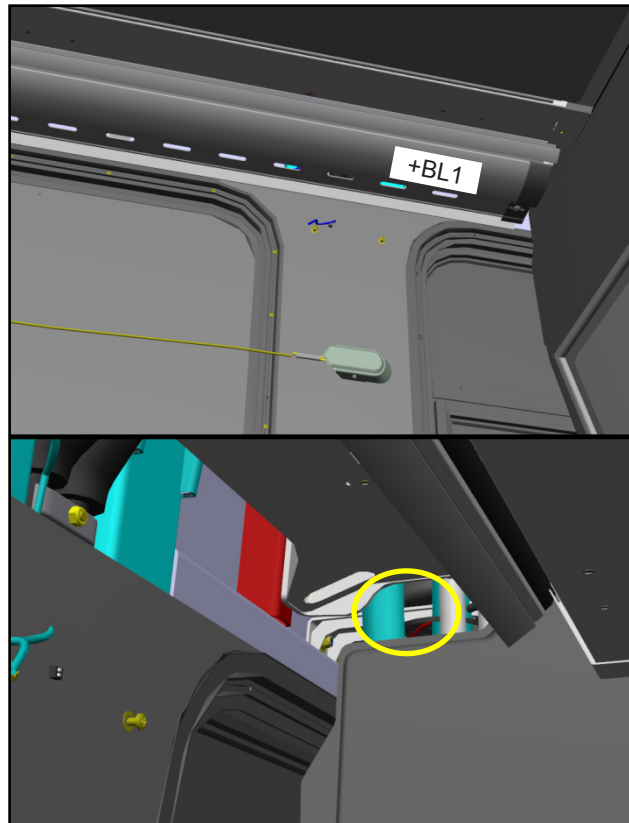

Figure 7 - Rear Base Light Access
- 1.13. To install cables through the driver partition, remove the driver panel or the baselight panel +BL1 and use a "wire fish tape" through the rear base light compartment (see Figure 7).